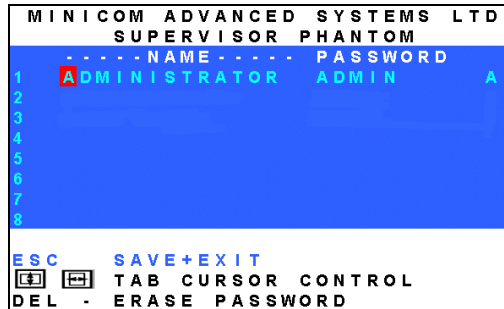

Figure 7-5 The Password Set Up window
1. Press **F7**. The **Password Set Up** window appears. See Figure 7-5. The Administrator sets up passwords in this window.